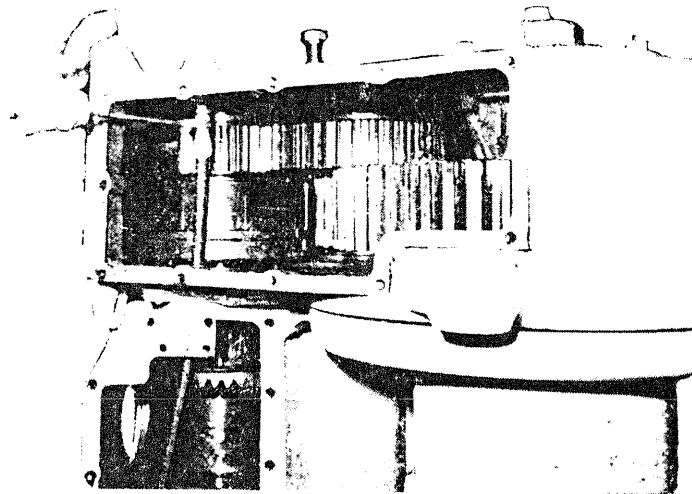

Figure 9
8. Remove the top side frame cover and disconnect the hydraulic line as shown in Figure 9.